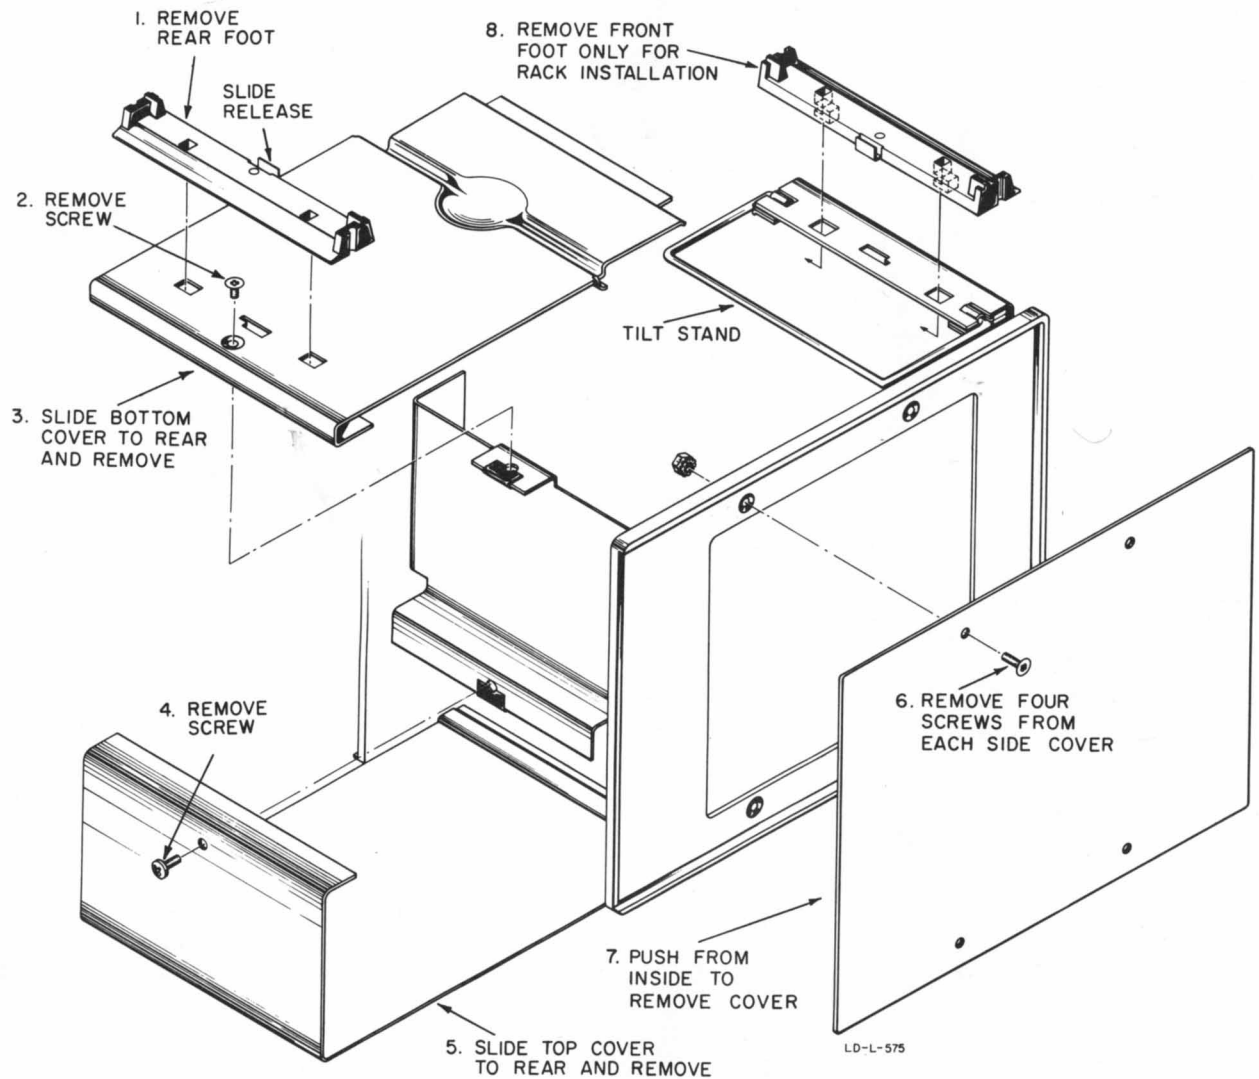

Figure 5-1. Cabinet Removal
2-6. The Model 350C/D is initially shipped with the plastic feet and tilt stand attached, ready for use as a bench-type instrument (unless ordered specifically as a rack-type model). The instrument may be adapted to mount in a standard 19-inch rack, alone or alongside other Φ modular instruments. Refer to figure 5-1 to see how the feet (and covers) are removed from the instrument. Complete information on rack-mounting the Model 350C/D is available from your Φ Engineering Representative or Φ Customer Service. Specify the instrument and complete serial number.
5-4. Figure 5-1 illustrates the removal of all instrument covers. This should be necessary only when replacing an attenuator section or a switch component (see paragraphs 5-5 and 5-7).
- a. Remove all instrument covers (see figure 5-1).